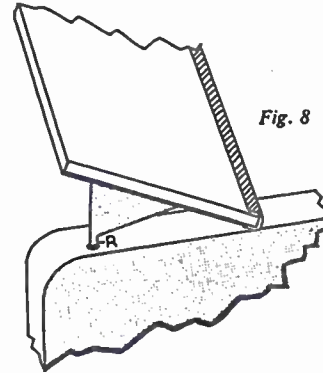

Fig. 6
plywood and battens (see Fig. 6). The plywood piece (K) should be 18ins. wide by 24ins. deep, while the battens (M, N and L, L) are butt jointed. (M) is 18ins. wide and is of 2in. by 1/2in. stuff. (N) is of the same section, but only 16 1/2ins. wide. (L) is 3ins.
When set, fit it to the chair with glue and screws into the sides of the chair (see Fig. 6). Then saw off the bottoms of the (L) battens flush with the underparts of the sides. Next, apply plywood sheet (3/4in. thick) to the back, stretching from (L) to (L) and from (M) down to the bottoms of (L). Use glue and pins.